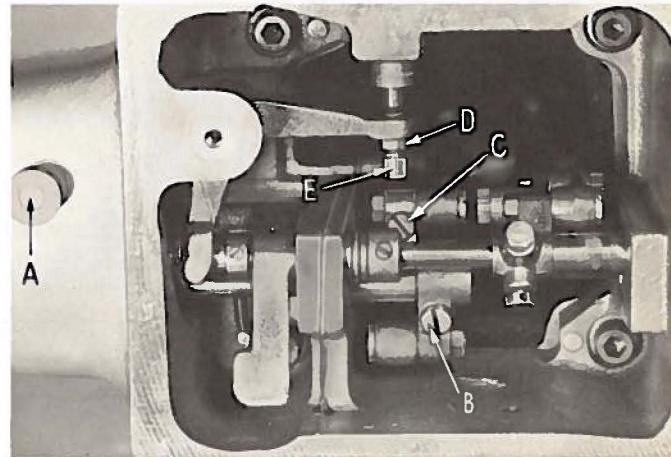
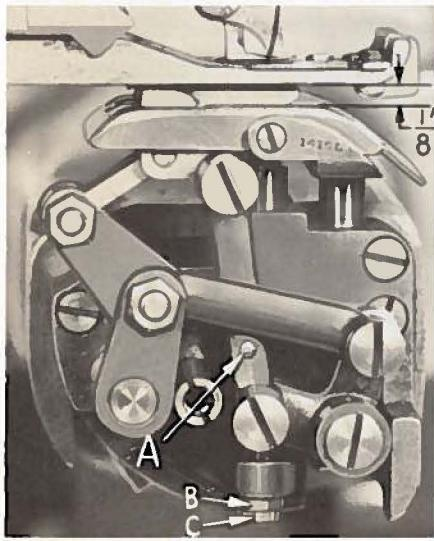
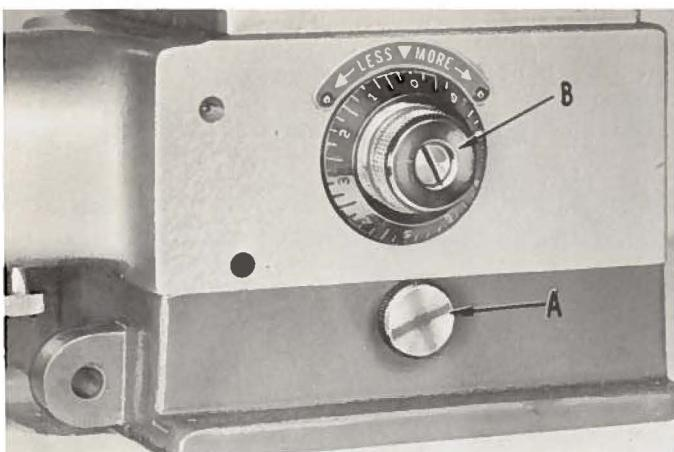
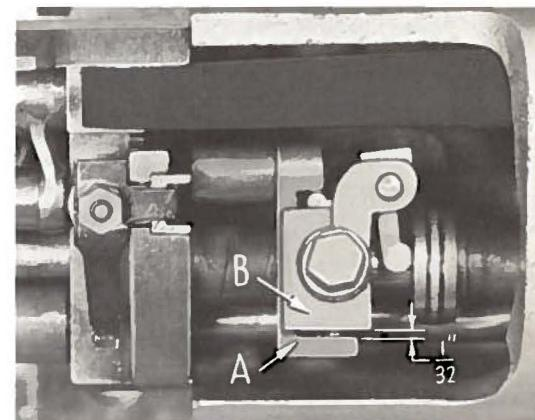

Fig. 11
Fig. 12
Fig. 13
Fig. 14
The feed plate pressure is adjusted at the factory. If it becomes necessary to change the pressure, turn knurled screw (A, Fig. 11) clockwise for more pressure and counterclockwise for less.
Turn the handwheel in operating direction until the feed point reaches its highest position and the feed plate reaches its lowest position. At this point, there should be  $\frac{1}{8}$  inch space between the top of the feed plate and the bottom of the presser foot (Fig. 12). To obtain this adjustment, loosen the machine base locking screw (A, Fig. 13) and lay the machine on its back. Then, loosen screw (B, Fig. 11) and hold link (A, Fig. 12) so that the feed point is pressed up against the bottom of the presser foot. Turn the handwheel in operating direction until the feed point reaches its most forward position, and retighten screw (B, Fig. 11).
Turn the handwheel in operating direction until the feed point first touches the presser foot. At this point, the front edge of the feed point should be aligned with the front edge of the knurling on the feed plate. To make this adjustment, loosen screw (C, Fig. 11), and by means of link (A, Fig. 12), move the feed point forward or backward as required. Retighten screw (C, Fig. 11). If, in this adjustment, the feed point has to be moved an appreciable distance, repeat the adjustment "Setting The Feed Point Height" in the previous instructions.
The height of the plunger is adjusted by turning the knob (B, Fig. 13) clockwise to raise the plunger and counterclockwise to lower it. To provide for the maximum plunger adjustment, there should be  $\frac{1}{32}$  inch clearance between plunger crank (A, Fig. 14) and the plunger block (B) when the adjusting knob (B, Fig. 13)
is turned clockwise as far as it will go. Note that there are pins which stop the knob (B) after each complete revolution. The knob may be pulled out toward the operator to lift it over the stop. The knob can make three complete revolutions. To make the  $\frac{1}{32}$  inch adjustment, turn the knob clockwise as far as it will go. Loosen locknut (D, Fig. 11) and turn screw (E) in the required direction. Retighten nut (D). Setting is correct when the needle, on its stroke to the right, just clears
the top of the plunger, with the adjusting knob in the maximum clockwise position. If after initial setting, further adjustment of height is necessary, it can be accomplished by turning nut (B, Fig. 12) and locknut (C) up or down as required. Check the adjustment so that the needle does not strike the plunger.